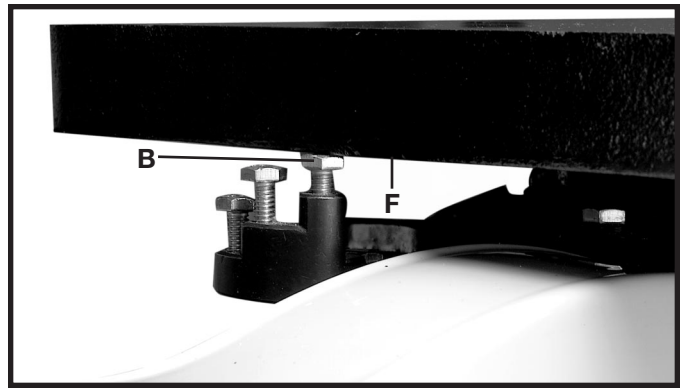

Fig. 45
3. Rotate the stop (B) Fig. 45 out of the way.
6. Rotate the stop (B) Fig. 45, until the tallest screw is under the table.